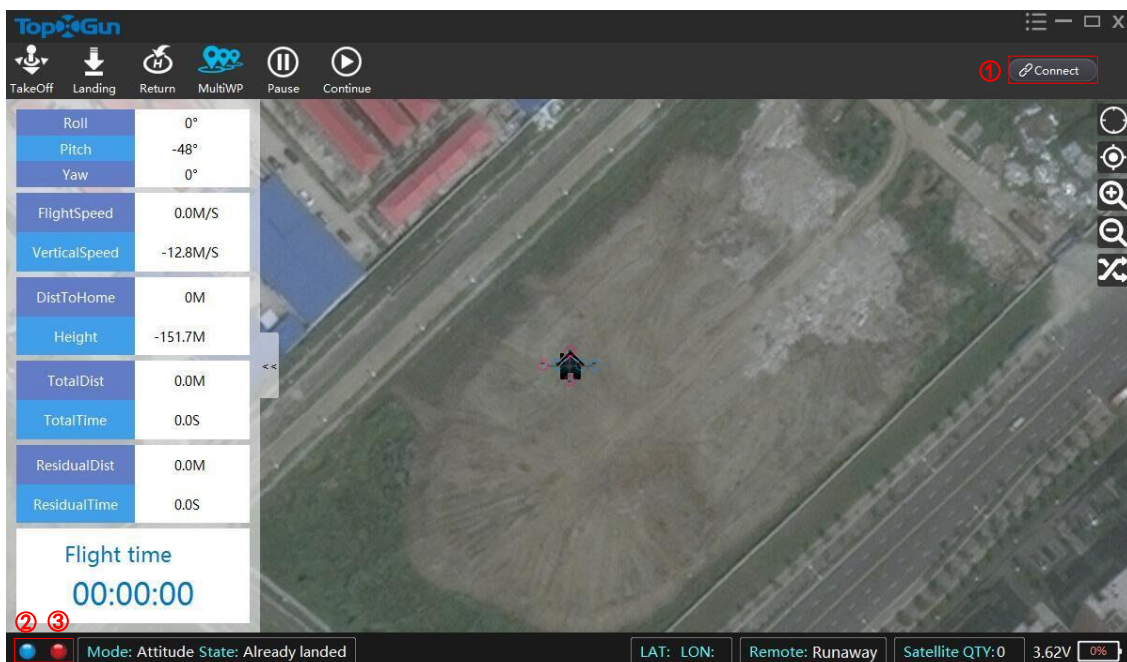

Figure 1 Connecting Ground Station
Step2. Digital transmission ground station is connected to PC using the USB cable. The software interface is as shown in Figure 1.